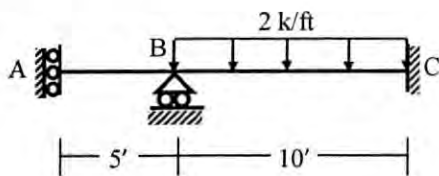

Figure 3
3. Determine the joint deflections and rotations of the beam loaded as shown in Figure 3 [Given: $EI = 40 \times 10^3 \text{ k-ft}^2$].